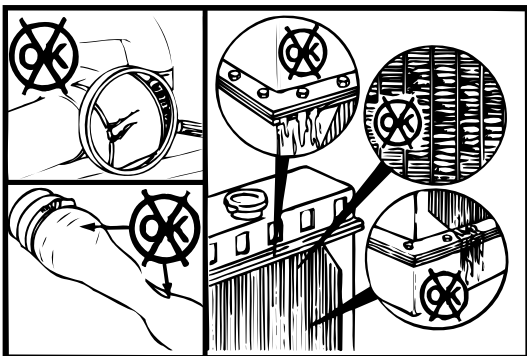

Figure 9
- Check for damaged hoses and loose or damaged hose clamps. Replace as required. Check the radiator and oil cooler for leaks in the upper and lower tank areas and the cores for damaged or bent fins. Clean and repair as required (figure 9).